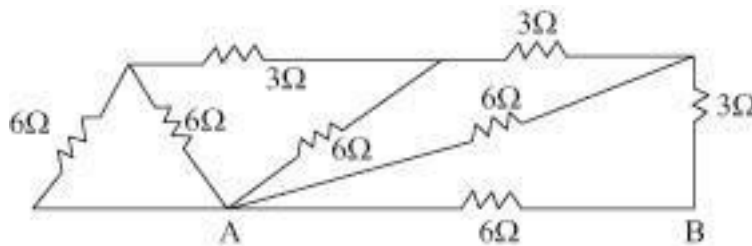

Figure 1.17
1. Find the equivalent resistance between the terminals A and B in the figure 1.17.